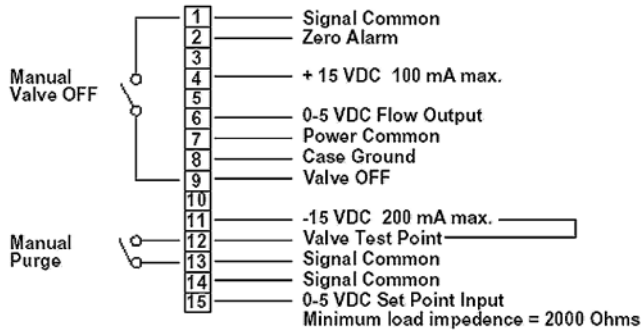

Figure 1. 9000 Series 15 pin D Connector Pinout
- If you are using a power supply other than one from Unit Instruments, check the pin assignments, making sure they match those in Figure 1.